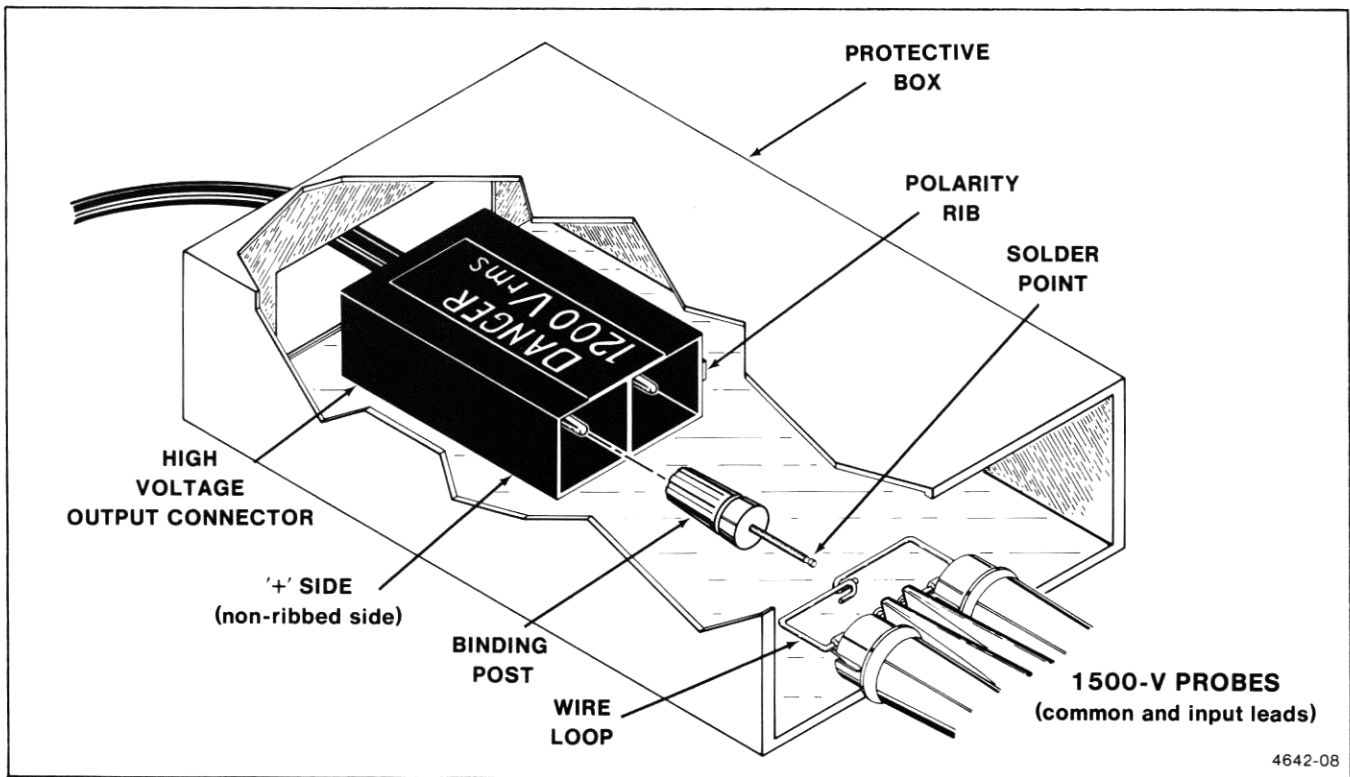
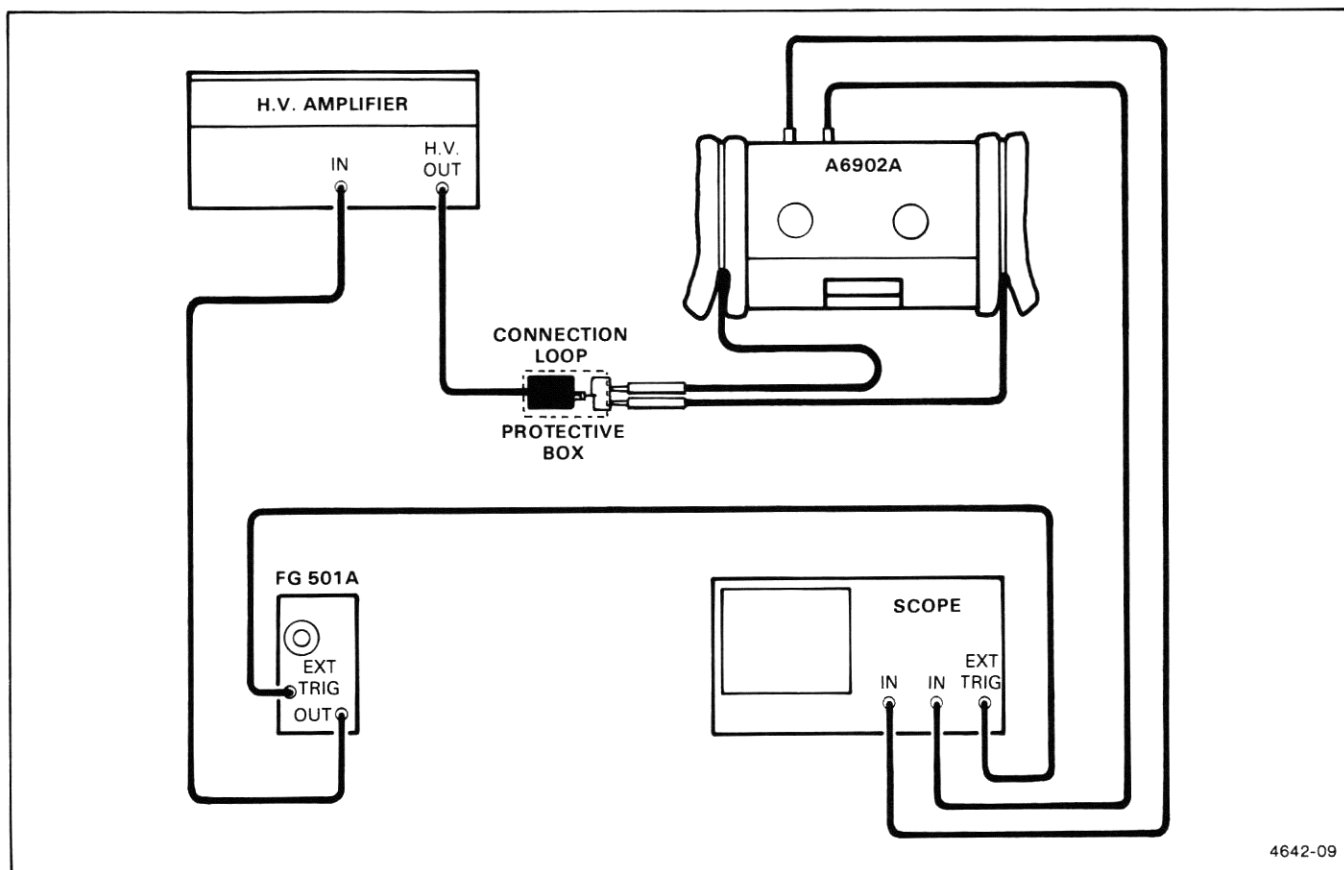

Figure 4-3. High-voltage connection fixture.
Figure 4-4. Common-lead signal feedthrough test setup.
Connector Shield (See "Preparation" and Fig. 4-3)
Special Connector (See "Preparation" and Fig. 4-3)
Unless shielded from personnel, the test connection between the A6902A 1500-V Probes and the High-Voltage Amplifier can be hazardous. The following connection fixture is recommended (Refer to Figure 4-3):
c. Connect the test setup as shown in Figure 4-4 and following the recommendations described under "Preparation" and Figure 4-3. Make certain that BOTH common AND input leads of the A6902A 1500 V probes are connected to the High-Voltage Amplifier output "probe connection loop."